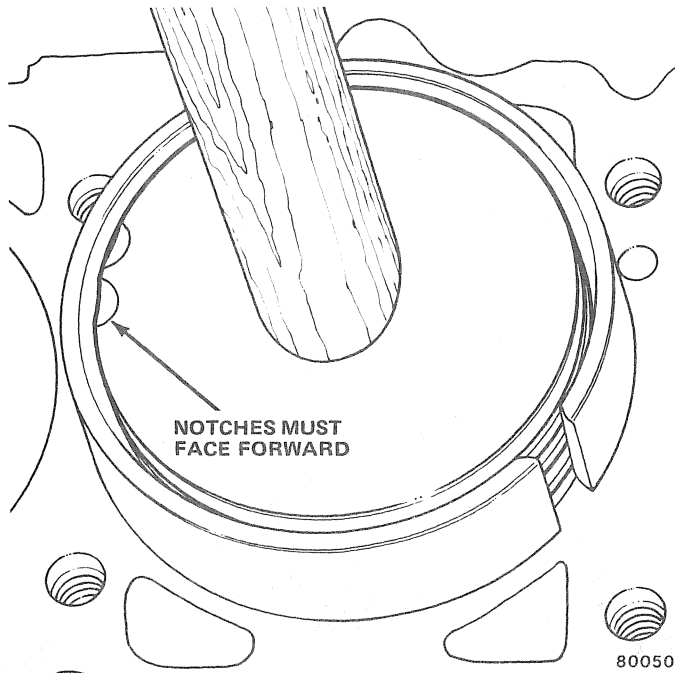

Fig. 1B-31 Installing Piston in Cylinder
(2) Position connecting rod in its original piston so that raised notch side of rod (fig. 1B-32) at bearing end is 180 degrees opposite notches in top of piston when installed.
(3) Position piston and rod on support, and insert pin through piston and rod. Note positions of notches.
(4) Place support on arbor press, start pin into position and press on installation tool until guide bushing bottoms (fig. 1B-30).
(5) Remove installation tool and support assembly from piston and connecting rod assembly.
(6) Inspect piston pin for freedom of movement in piston bore.
(7) Install piston rings with appropriate installation tool. Refer to Piston Ring Installation for procedure.